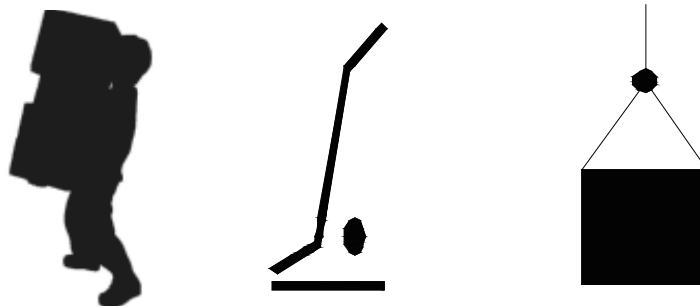

FIG 9-2
2.3 Product handling, generally using portable, car handling and lifting and moving, as shown in the figure 9-2